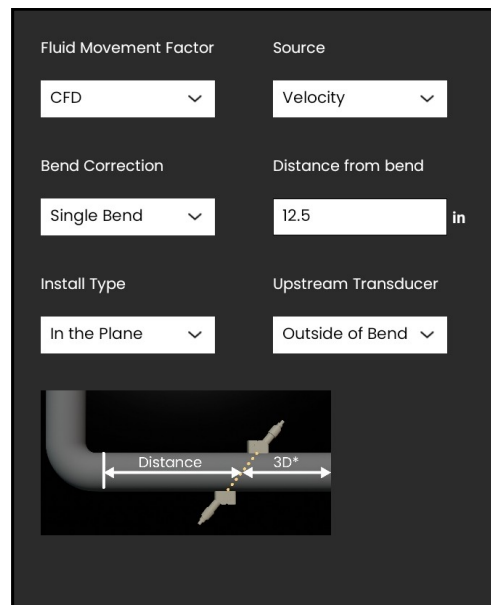

Figure 101: 1 Traverse Upstream Transducer Outside of Bend Option
9. If the transducers are in the plane of the bend, there are 2 possible options for the Upstream transducer location: OUTSIDE OF BEND and INSIDE OF BEND. For 1 traverse installation, if the upstream transducer is outside the elbow formed by the pipes of the bend, OUTSIDE OF BEND should be selected, as shown in *Figure 101*.